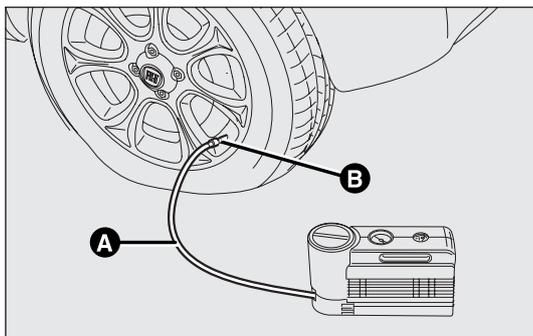

fig. 152
- Make sure the handbrake is on. Unscrew the tyre valve cap, take out the flexible filler tube A-fig. 152 and tighten the ring nut B on the tyre valve;